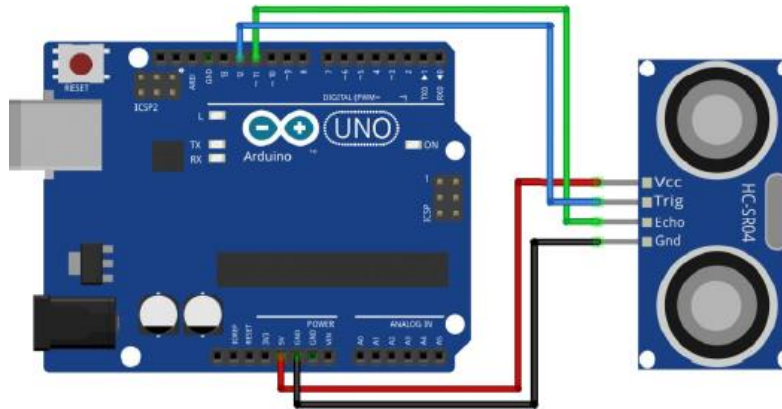

Figure 2. Layout of your ultrasonic sensor / Arduino
- Use the schematic/pictorial in figure 2 to construct your ultrasonic transceiver hardware interface.